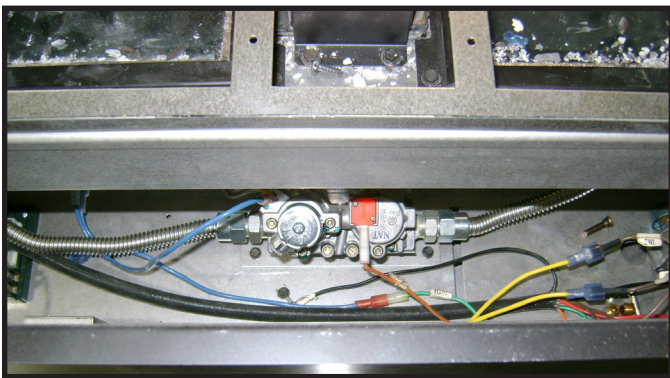

Figure 11.1. Valve Pressure Taps.
6. There are three access windows located on the interior of the firebox bottom. See Figure 11.1. Remove screws and plate to access the manual shutoff valve included with this fireplace.